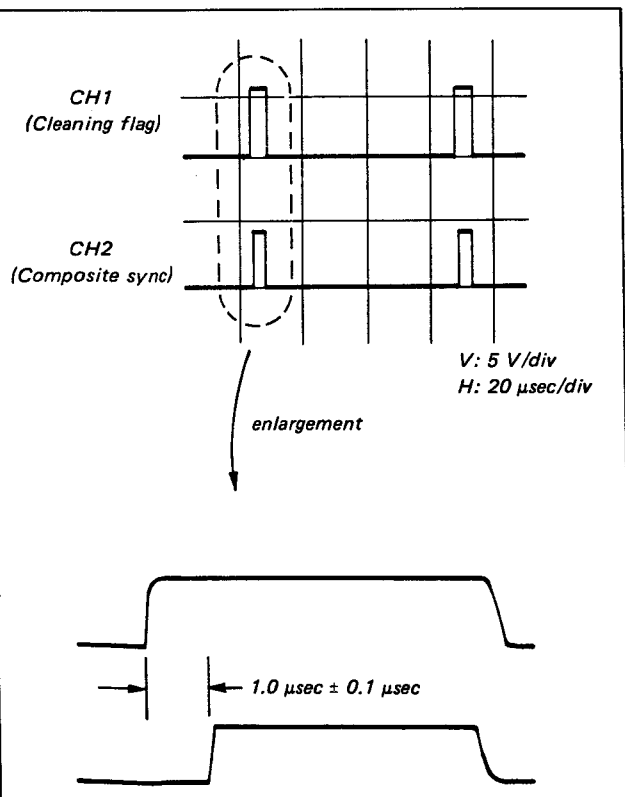

Fig. 5-32. Cleaning flag adjustment
- i) Adjust to $1.0 \mu\text{sec} \pm 0.1 \mu\text{sec}$ with RV006. (See Fig. 5-32.)